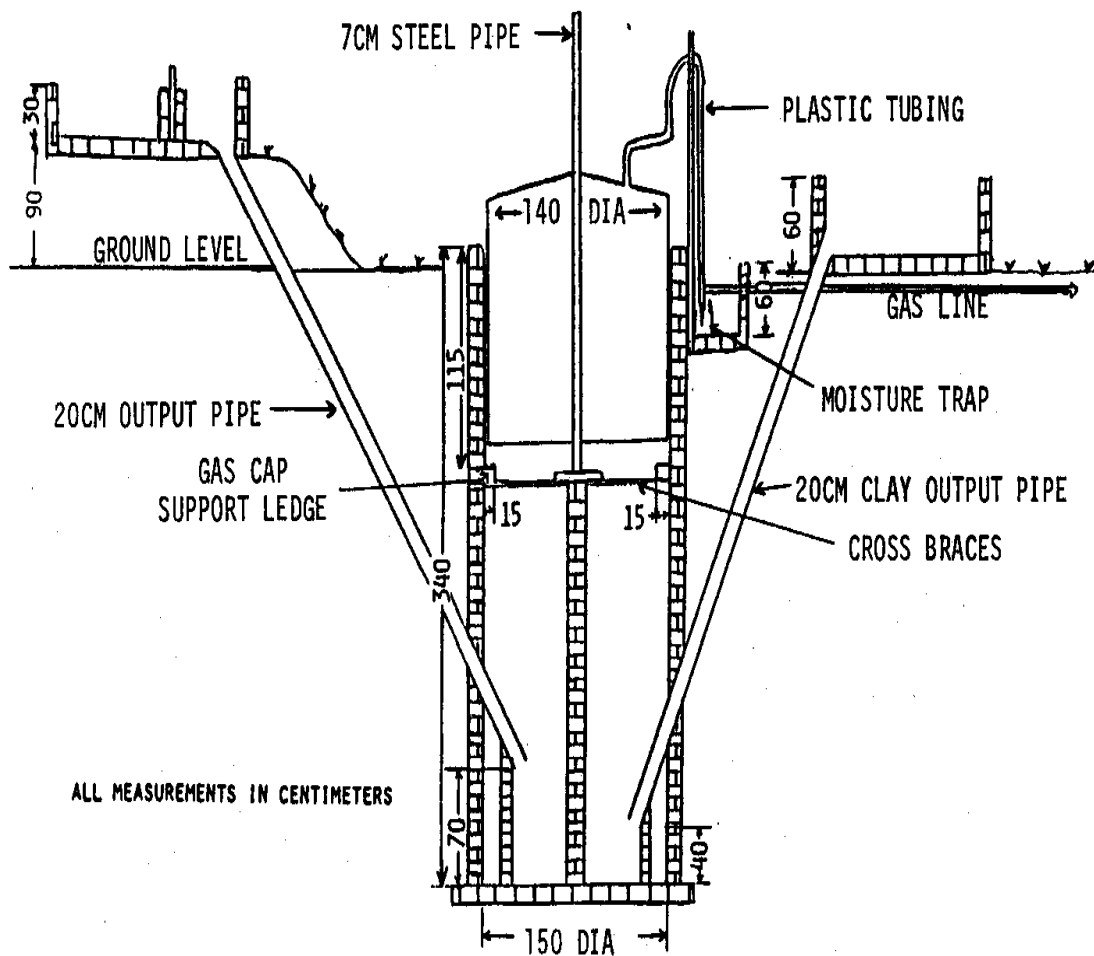

Figure 3. 3-Cubic-Meter Gas Digester
* Place a jar of water outside the pit and put into it the end of a downward projection of the gas pipe at least 20cm long. Any moisture condensing in the pipe flows into the jar instead of collecting in the pipe and obstructing the passage of gas. Water then overflows and is lost in the ground. Remember to keep the jar full or the gas will escape. An ordinary tap when opened lets the water escape. Whether using the water jar or tap, do not let the length be greater than 30cm below ground level or it becomes too difficult to reach (see Figure 3 on page 20).